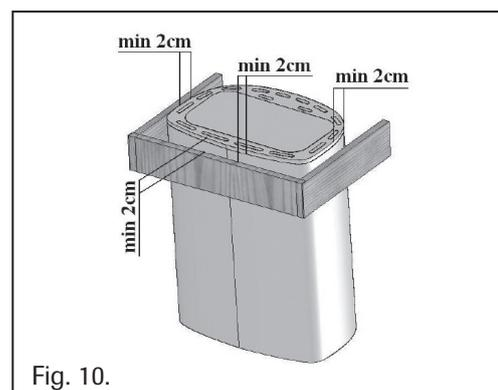

Fig. 10.
- If required, a protective railing can be built round the stove. See Fig. 10. We recommend a wooden railing. The indicated safety distances to inflammable structures must be observed.